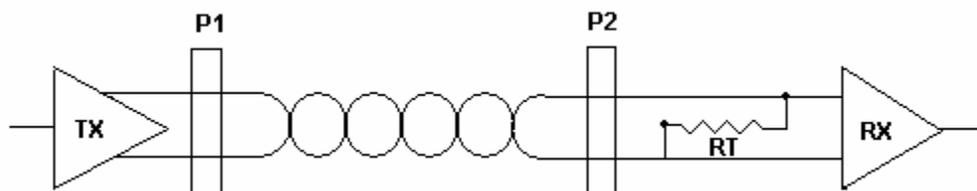

Figure 1. Driver to Receiver connection with data cable
Common RS485 transceivers, such as SP485E, offer a standard receiver failsafe feature that will commit the output to logic “high” when the inputs are floating. Internal to the receiver is a very weak pull up on the non-inverting input that will force the non-inverting input to be at least +200mV greater than the inverting input, when inputs are floating. This, for the most part, works fine when the data cable is disconnected and there are no termination resistors present at receiver input. When RS485 protocol was first being used, the termination resistor would be housed within data cable. Under this configuration, the receiver failsafe would operate with no problems anytime data cable was disconnected. However, this type of configuration made data cables more costly and not all applications required the use of termination. Data cable manufacturers have stopped offering internal termination resistors in the cable. Thus, applications that required or used termination resistors would simply include termination resistors into printed circuit board at receiver input terminals. Figure 1 shows a simple driver to receiver connection using data cable and termination resistor (RT).